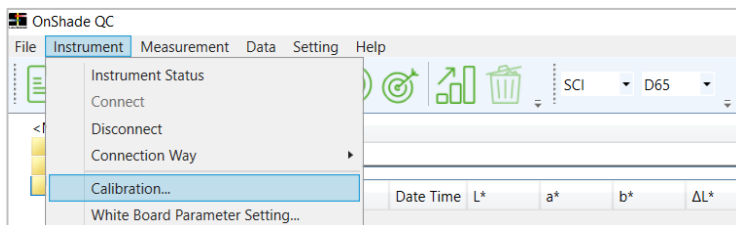

Figure 16: OnShade menu – Instrument Calibration
1. From the menu select “Instrument” and then “Calibration” or click the Calibration icon  from the tool bar. A window will appear (Figure 16).